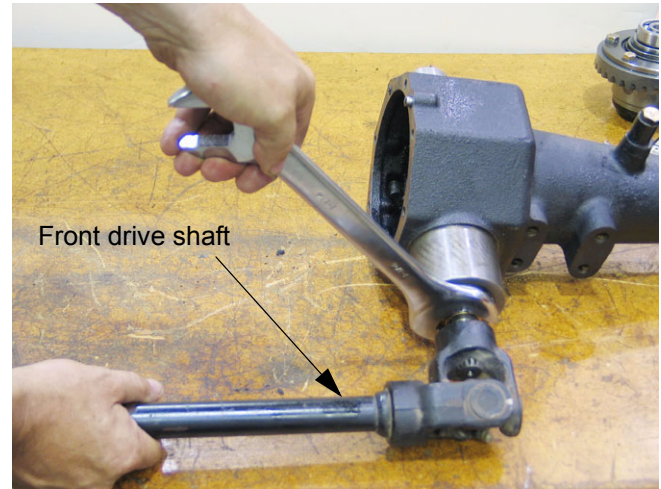

Figure 9.17
9.17. After the nut is de-staked, use the front wheel drive shaft to hold the pinion shaft, while tuning the nut with a 1 1/4" wrench. See Figure 9.17.